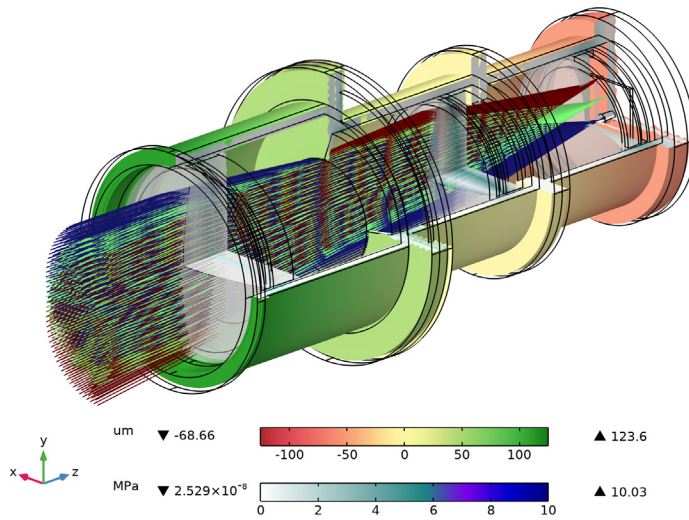
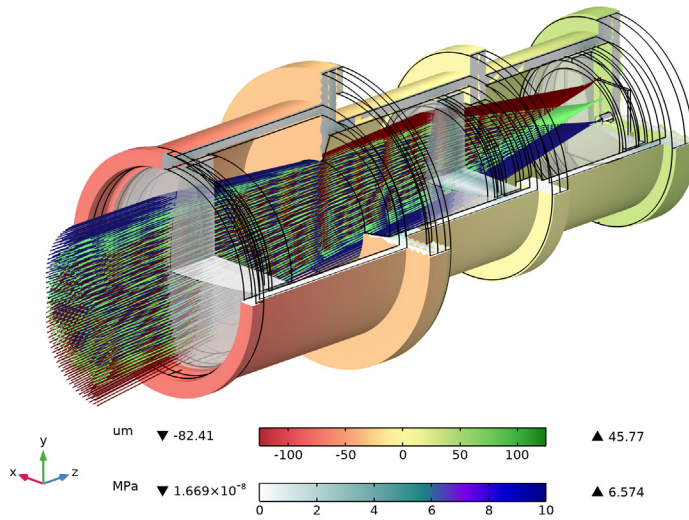

Figure 6: In this ray trace, the displacement field is shown together with the von Mises stress for a temperature  $T = -25^{\circ}\text{C}$ .
Figure 9: In this ray trace, the displacement field is shown together with the von Mises stress for a temperature  $T = 50^\circ\text{C}$ .
Figure 6 to Figure 9 shows the same stress plots together with the absolute lens displacement.
- 4 In the **Displacement** toolbar, click  **Plot**. Compare to Figure 6.
- 10 In the **Displacement** toolbar, click  **Plot**. Compare to Figure 9.